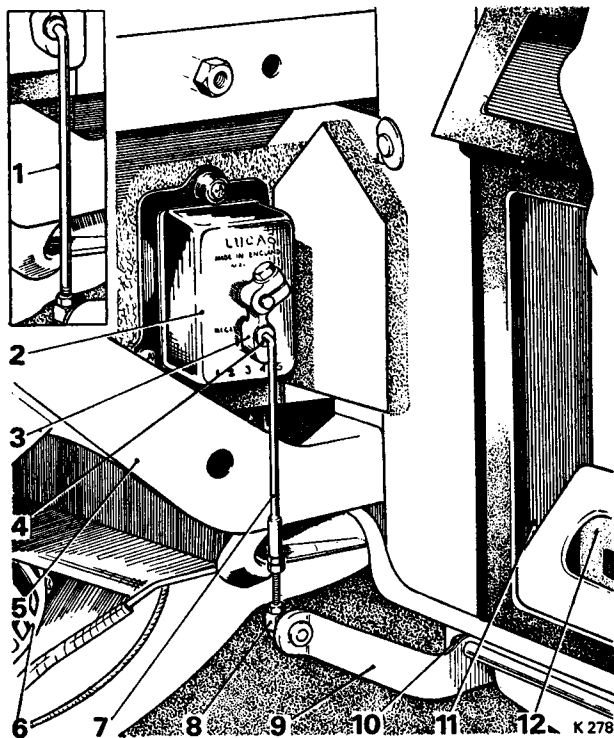

FIG. C9 LOWER QUANTITY FLAP ACTUATOR SETTING
5. Disconnect the control rod from the lower flap lever 9 (see Fig. C9).
(see Fig. C9)
3. Fit and tighten the actuator lever onto the spindle in the position shown in Figure C9.
9. Adjust the length of the control rod and fit it to the flap lever; tighten the lock-nuts. The inset (see Fig. C9) shows the latest control rod.